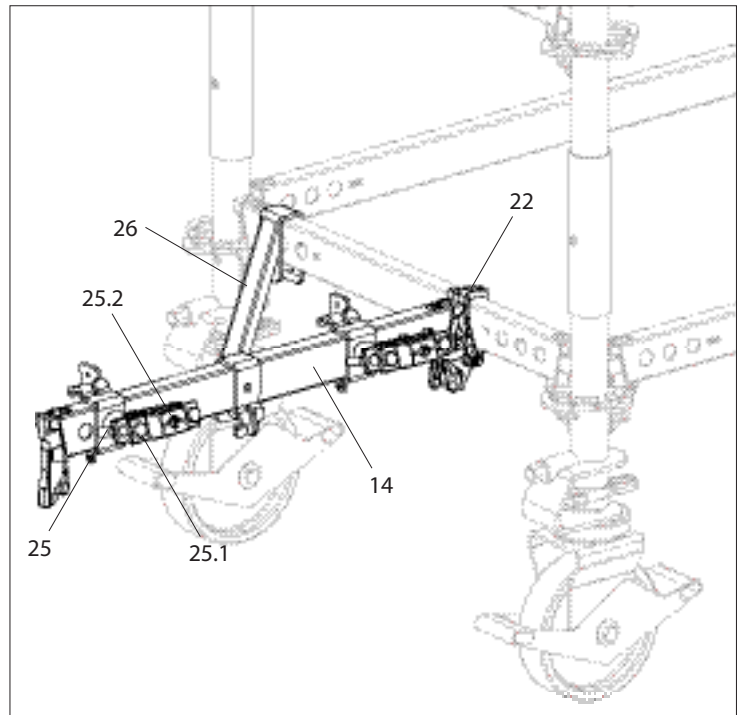

Fig. A3.07
1. Attach Ledger-to-Ledger Coupler UHA (22) to Horizontal Ledger UH-2 75 (14).
2. Brace the horizontal ledger with Ladder Connector Diagonal UAD (26).
3. Fit the Ladder Connector Ledger UAM-S (25) to reflect the distance between the ladder rails.
4. Completely unscrew one screw (25.1) from each of the tube clamping parts (25.2). Open the second screw far enough that the ladder stile can be placed. (Fig. A3.07)